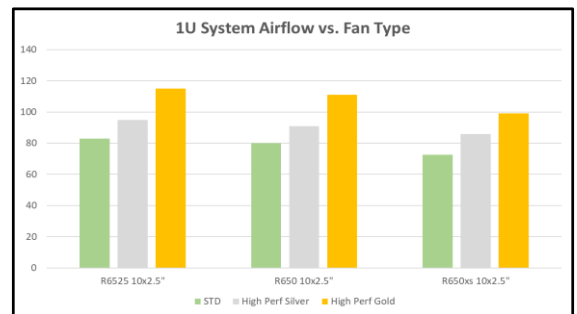

Figure 1 – Graph illustrating the increased fan airflow (in CFM) for high performance silver and gold fans compared to baseline fans
**High Performance Fans** – New higher performance fans have been added to increase the amount of cool air pushed through the system, targeted at higher power semiconductors (CPUs, GPUs and NVMe drives). A 3-tier approach to fan performance is employed to address the trend of increasing total power. This includes standard fans and high performance silver and gold fans, which increase the airflow capability versus the previous-generation fans (see Figure 1).